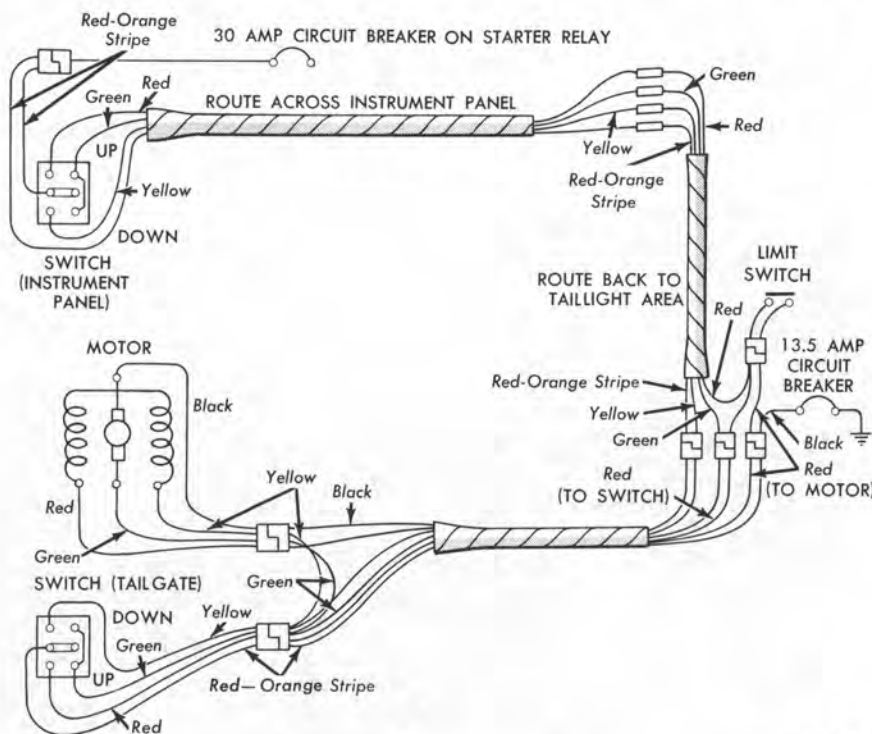

FIG. 26—Tailgate Power Window Wiring Diagram
or replace the circuit breaker as required (Fig. 26).
4. In the right taillight area (Fig. 26) separate the blue connector enough to insert a voltmeter test lead and still leave the connector functional. Check for battery voltage at the red-orange stripe lead. Repair or replace the wire if necessary.
1. With a self-powered test light, test the switch (Fig. 26). The tailgate switch can be tested from the switch wire connector. Replace the switch if necessary.
1. In the right taillight area, separate the blue wire connector enough to insert a voltmeter test lead and still leave the wire connector functional. Check for battery voltage at the red-orange stripe lead. If voltage is not available, trace and check the red-orange stripe wire to the battery terminal of the starter relay (Fig. 26) and repair or replace as necessary.
1. In the right taillight area (Fig. 26), separate the blue wire connector enough to insert a voltmeter test lead and still leave the wire connector functional. Check for battery voltage at the red-orange stripe lead. If voltage is not available, trace and check the red-orange stripe wire to the battery terminal of the starter relay (Fig. 26) and repair or replace as necessary.
2. Disconnect the limit switch wires at the black connector (Fig. 26). Connect a self-powered test light to the limit switch wires and test the switch. The limit switch contacts are open when the tailgate is open. Repair or replace the switch or wires as required.